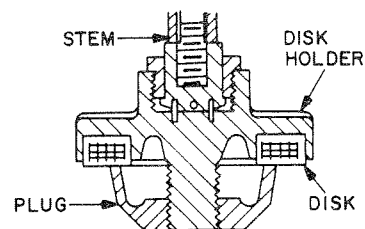

Fig. 4.17: Plug and Disc Detail
4. Grasp the disc holder with a locking pliers and use another locking pliers to unscrew the plug from the disc holder (see Fig. 4.17). Be careful not to nick